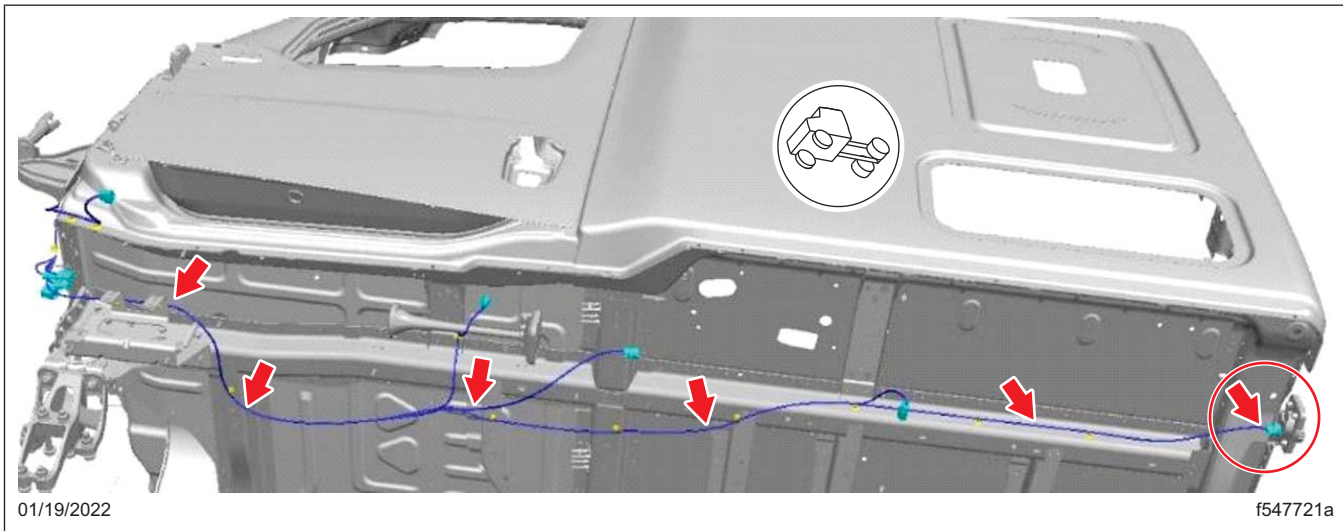
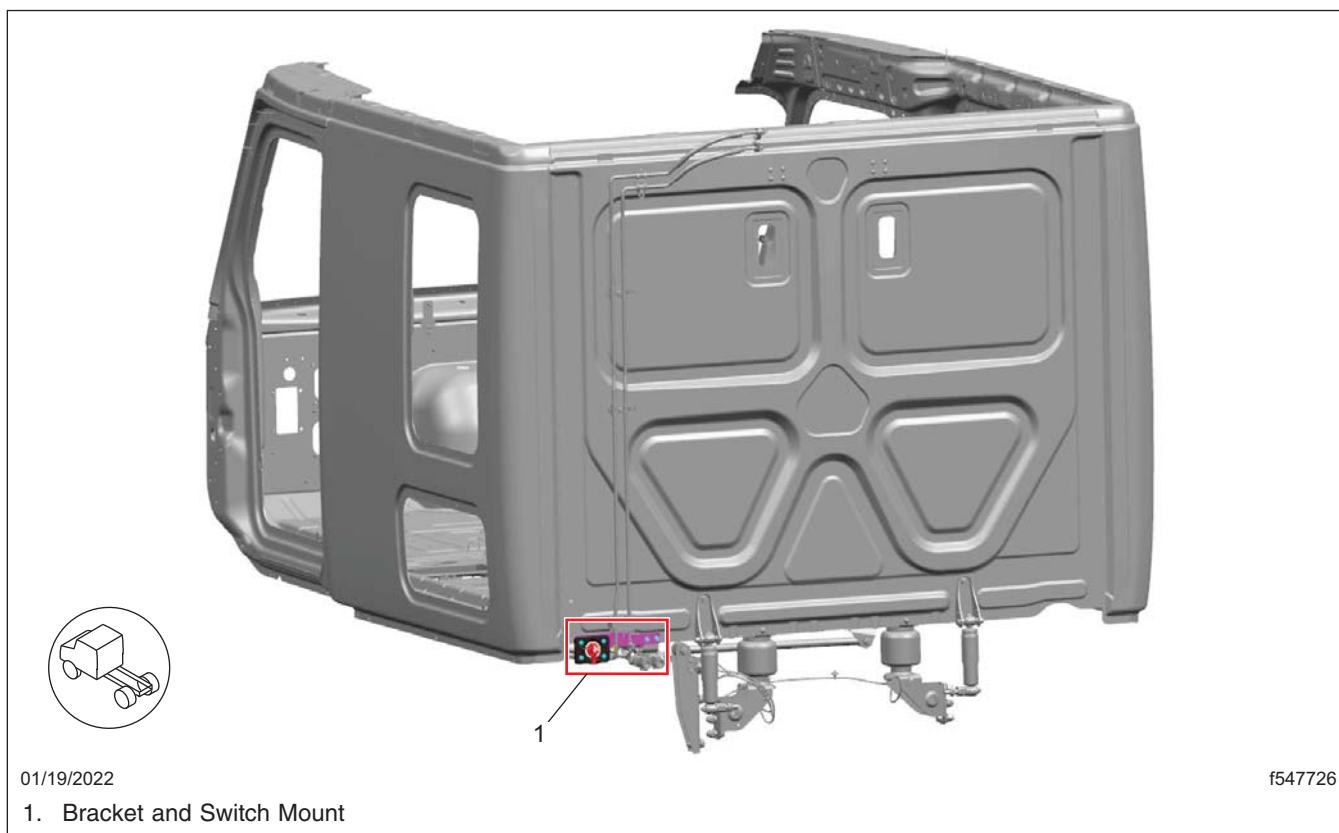

Fig. 19, Harness Routing (under cab)
Fig. 23, Bracket and Battery Switch Location at Back of Cab
- 11.2 For BOC installation, route the harness from the firewall grommet down the driver's side front wall as shown in Fig. 16, and then under the cab as shown in Fig. 19, and then to the battery load disconnect switch location as shown in Fig. 23. Secure the new harness with cable ties to the existing harnesses or airlines, as needed.
1. Install the switch bracket to the BOC as shown in **Fig. 23** using the two hex screws and nuts.